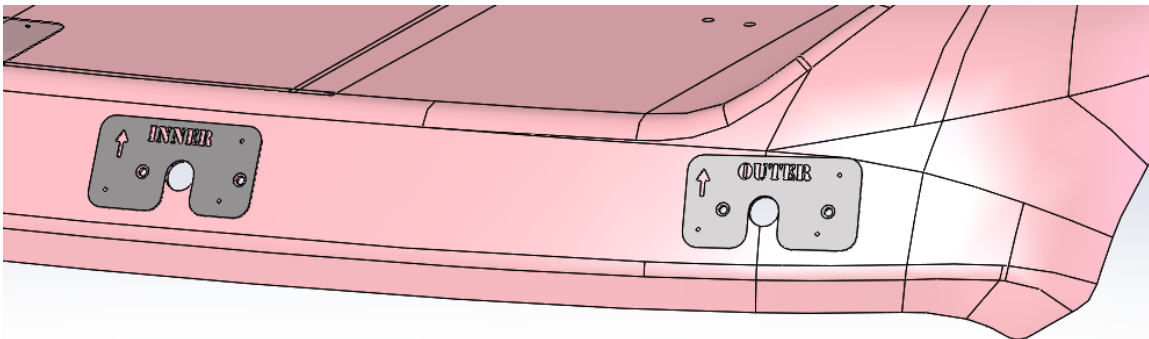

Figure 2: Correct Orientation of Drill Templates (Driver Side Shown)
3. Using the supplied 10-32x1/2" truss head screws and fender washers, install the Inner / Outer drill templates onto the roof on the driver side. The two larger holes on each template will fit snugly around the OEM nutserts left from the roof lights with the arrow cutout pointing upwards, & the text should be readable. Reference Figure 2 for correct orientation.